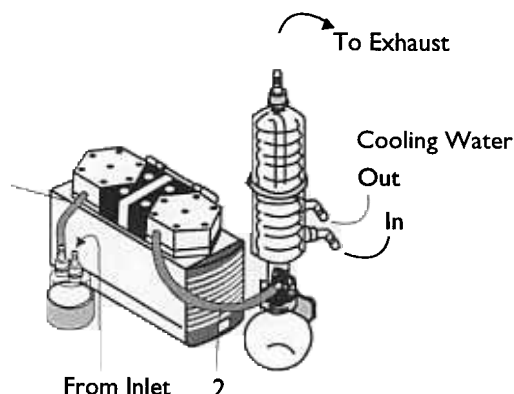

Figure 8: Tubing Connection SH (twin head pumps)
- Tubing see figure 8. Choose tube material which is resistant to the media to be used.
- ★ Observe the correct usage of the gas- and cooling water-connections on the condenser (see figure 8). Inlet and outlet connections for the vapour side are not interchangeable.
- ★ Ensure that the coolant inflow and outflow are connected to the correct nozzles as indicated in figure 8.